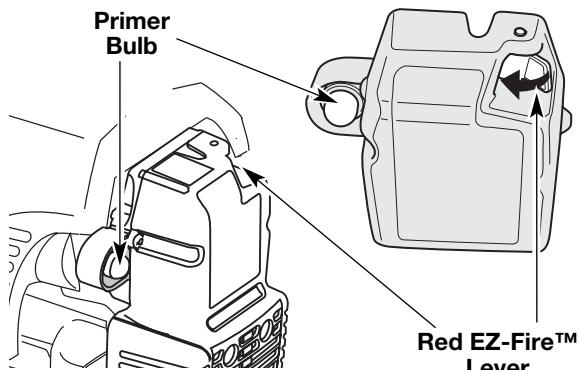

Fig. 10
2. The On/Off Stop Control is in the ON (I) position at all times (Fig. 10).
3. Fully press and release the primer bulb 10 times, slowly. Some amount of **fuel should be visible in the primer bulb** and fuel lines (Fig. 10). If you can't see fuel in the bulb, press and release the bulb as many times as it takes before you can see fuel in it.
5. **Push the red EZ-Fire™ Lever towards the primer bulb** until it clicks and locks into place (Fig. 10).
1. Move the throttle control to the idle position (Idle). Allow the engine to cool down by idling (Fig. 10).
2. Put the On/Off Stop Control in the OFF (O) position (Fig. 10).